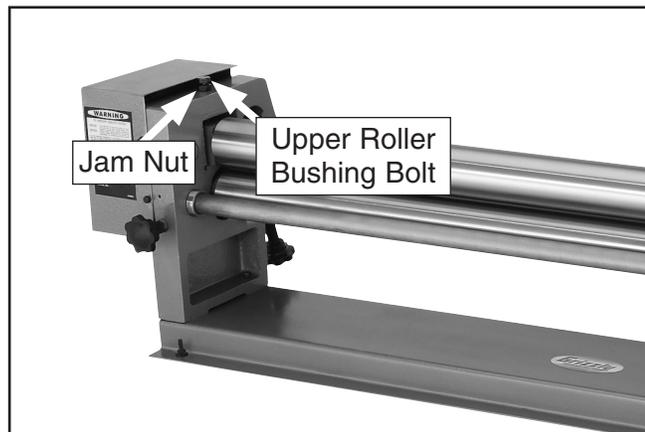

Figure 29. Hex bolt and jam nut.
1. Loosen the hex bolt and jam nut that secure the upper roller at the gearbox (**Figure 29**).